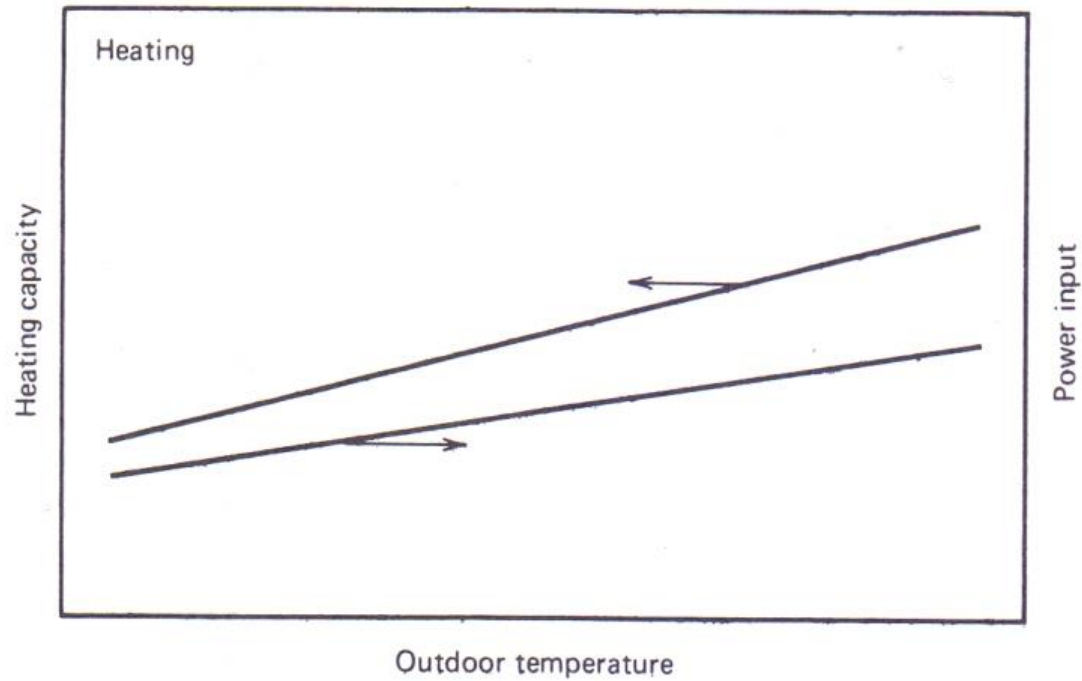

Fig. 2 Heat-pump operating characteristics.
- Fig. 2 Heat-pump operating characteristics.